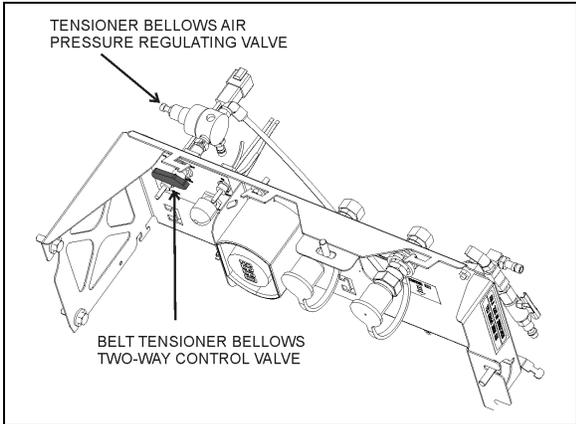

FIGURE 39: BELT TENSIONER CONTROL VALVE - H3 SERIES 12219
2. For vehicles equipped with a 3rd alternator, belt tensioning is also applied through air bellows (Figure 37). Turn the belt tensioner two-way control valve counterclockwise to release bellows pressure (Figure 39).
For H3 series vehicles equipped with a 3rd alternator, (Figure 37) belt tensioning is also applied through air bellows which is adjusted by an air pressure regulating valve pressure (Figure 39). The correct pressure of 45 psi is set at the factory. Periodically verify the pressure at the regulating valve using a pressure gauge and correct if required.
Belt tensioning is applied through air bellows which are adjusted by an air pressure regulating valve (Figure 39). The correct pressure of 45 psi is set at the factory. Periodically verify the pressure at the regulating valve using a pressure gauge and correct if necessary.